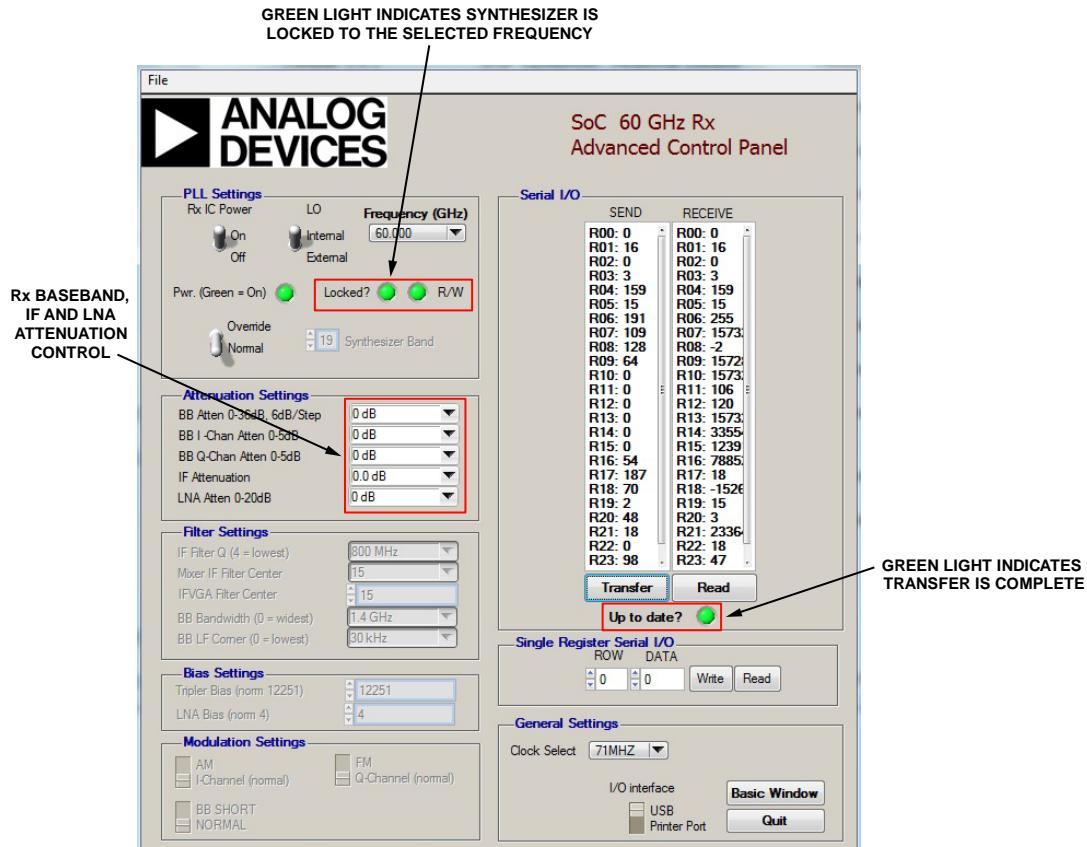

Figure 9. SoC 60GHz Tx Advanced Control Panel Window for the HMC6301 Rx GUI After Successfully Programing the HMC6301 to 60 GHz
2. Click the **Transfer** button and the HMC6301 device programs and locks to the desired frequency. If the HMC6301 device is successfully programmed, the **R/W** LED under **PLL Settings** turns green, indicating the read/write operation is properly executed. If the device locks to the selected frequency, the **Locked?** LED under the **PLL Settings** also turns green (see Figure 9).
Figure 9 shows a successful data transfer and synthesizer lock. The receiver then functions on the selected channel. The Rx baseband, IF attenuation, and LNA attenuation, under the